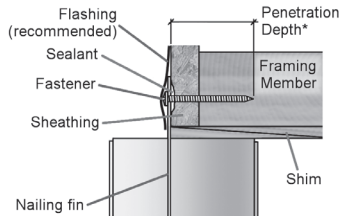

Figure 3 - General Installation
- (Required)** Apply a generous (at least 3/8" bead), continuous bead of exterior-grade sealant to ensure an adequate seal between the back of the nailing fin and the exterior surface of the rough opening (reference **Figure 3**). The bead should run along the approximate location of the nailfin holes (if the nailing fin has two rows of holes, apply sealant in line with the inner row). **⚠️ If using pan flashing, do not seal the lower sill nailing fin so as to provide adequate drainage.**